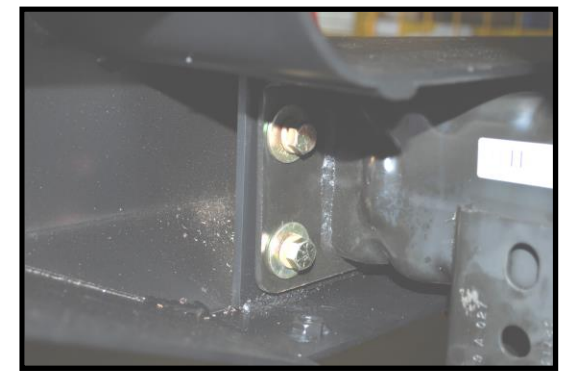

Figure 3
Step 6 – Install Hyline Front Bumper onto vehicle. Two people are recommended for this step. Use supplied 7/16-20 Grade 8 Nuts, Lock Washers and Flat Washers to assemble bumper to frame. (See Figure 3) After all eight nuts are hand threaded you may tighten all nuts to 78 ft/lb torque.